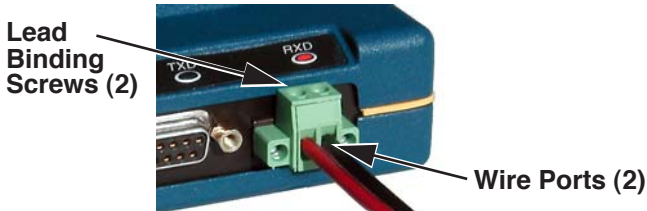

Figure 14. Power Connector
4. Measure and install the primary power for the transceiver. It must be within 6–30 Vdc (including transients) and be capable of providing 7.5 watts over this voltage range. (Typical current draw is 400 mA @ 13.8 Vdc; 0.9 A @ 6 Vdc.) A power connector with screw-terminals is provided with each unit. Strip the wire leads to 0.25"/6 mm. Be sure to observe proper polarity. The left pin is the positive input; the right is negative. (See Figure 14.)
Only the power connector, shown in Figure 14 with screw terminals and two retainer screws should be used with this unit.